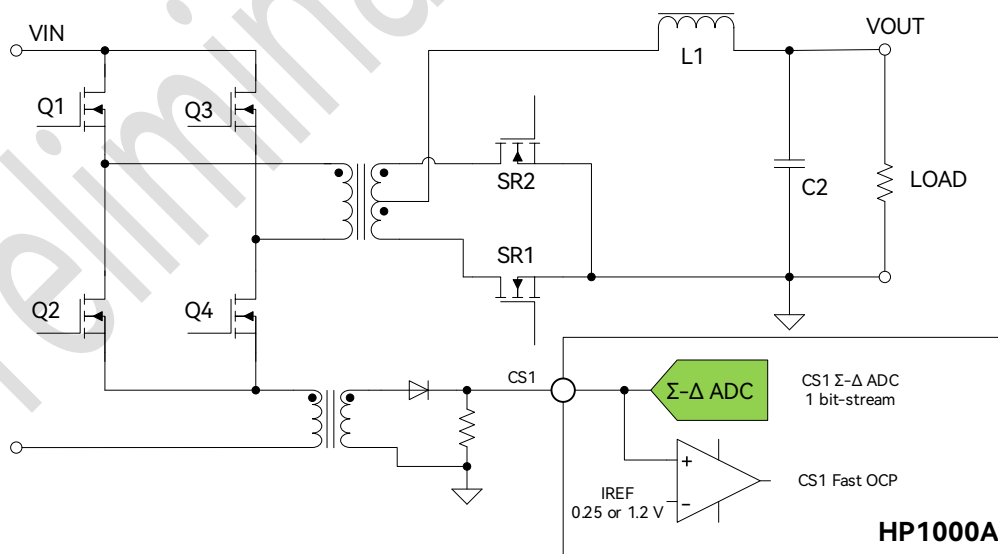

Figure 3 Diagram of CS1 Primary Current Sense
Current Sense 1 (CS1) is typically used for the monitoring and protection of the primary side current, which is commonly sensed using a current transformer (CT). The input signal at the CS1 pin is fed into an ADC for current monitoring. The range of the ADC is 0 V to 1.6 V. The input signal is also fed into an analog comparator for cycle-by-cycle current limiting and IIN over-current fast protection, with a reference of 0.25 V or 1.2 V. The typical configuration for the CS1 current sense is shown in Figure 3.